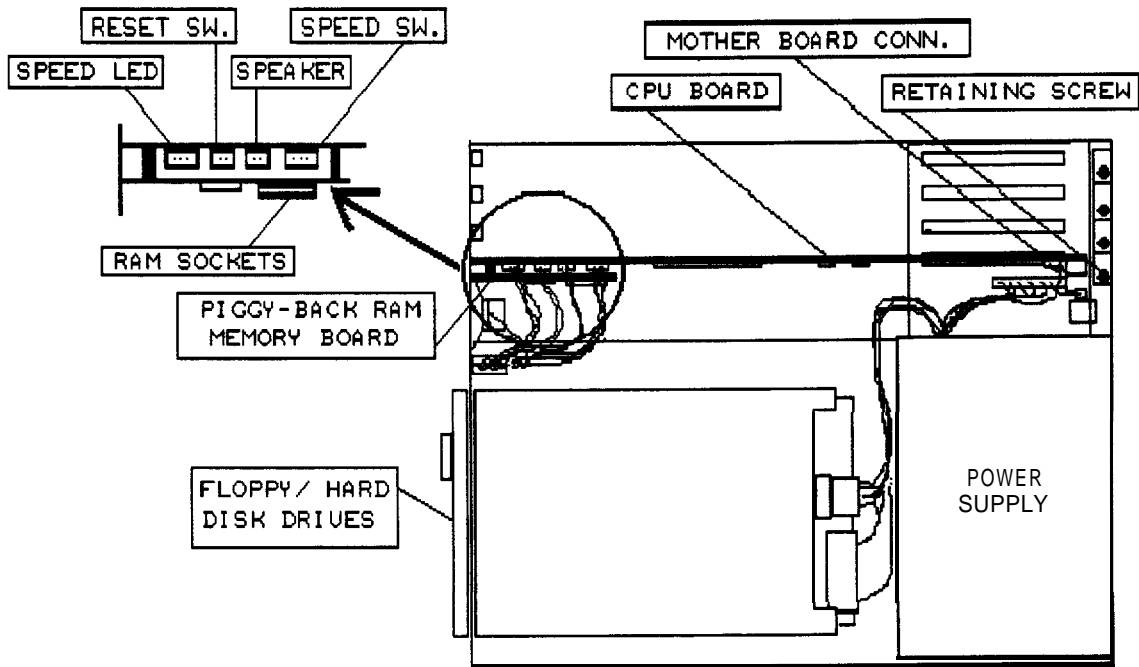

Figure 1
2. After the top cover is removed, unscrew the CPU board retaining screw and disconnect the 5 connectors which are attached to the top of the CPU board. Note the positions of the connectors for later reconnection. Refer to figure 1 for details of board and connector locations.